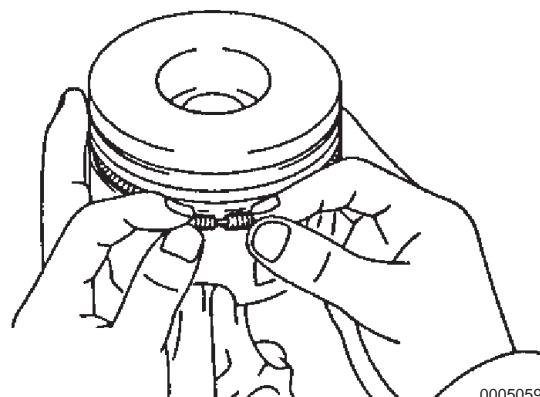

Figure 5-136
6. Manually install the coil for the oil piston ring (Figure 5-136).